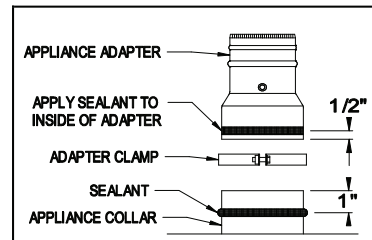

Figure 5
1. Apply a bead of sealant to appliance collar approx. 1" from end of collar (Figure 5).
2. Remove all oil and grease from the inside of the appliance adapter, and apply a bead of sealant to inside of adapter ?" from end (Figure 5).
5. Assemble adapter clamp halves using the supplied 5/16" bolts and square nuts, and install the appliance clamp onto the adapter and tighten securely (Figure 5).